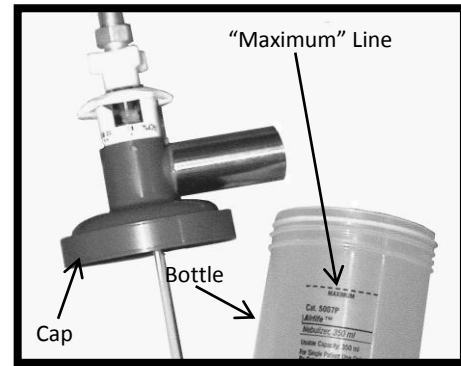

Figure 15: Nebulizer Cap & Bottle
The gauge is powered by a 1.5 AG 10 volt, lithium, Type LR1130 button cell battery which you can obtain locally. The battery is contained in a built-in slide in the top of the gauge (Figure 14). Just pull the battery slide up with your finger to open, and remove the battery. When replacing the battery, notice that the battery is marked with a “+” sign on one side (Figure 15). The “+” sign must be must face the front of the gauge. With the battery in the slide, press the slide downward until it clicks into place.
2. Fill the bottle to the "Maximum" line with sterile water (Figure 15).
5. Refer to Oxygen Concentration Control below to set desired oxygen concentration. **Note:** For questions concerning the use of the nebulizer, contact Care Fusion Respiratory Resource Center at (800) 637-1500. Refer to their part number 5007P.